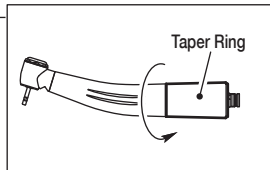

Fig. 15
- 1) Remove the handpiece from the coupling, loosen and remove the taper ring. (Fig. 15)